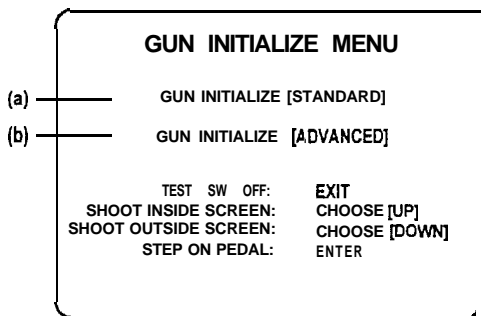

Figure 1: Gun Initialize Menu Screen
- e. The GUN INITIALIZE Menu screen will appear as shown in Figure 1.